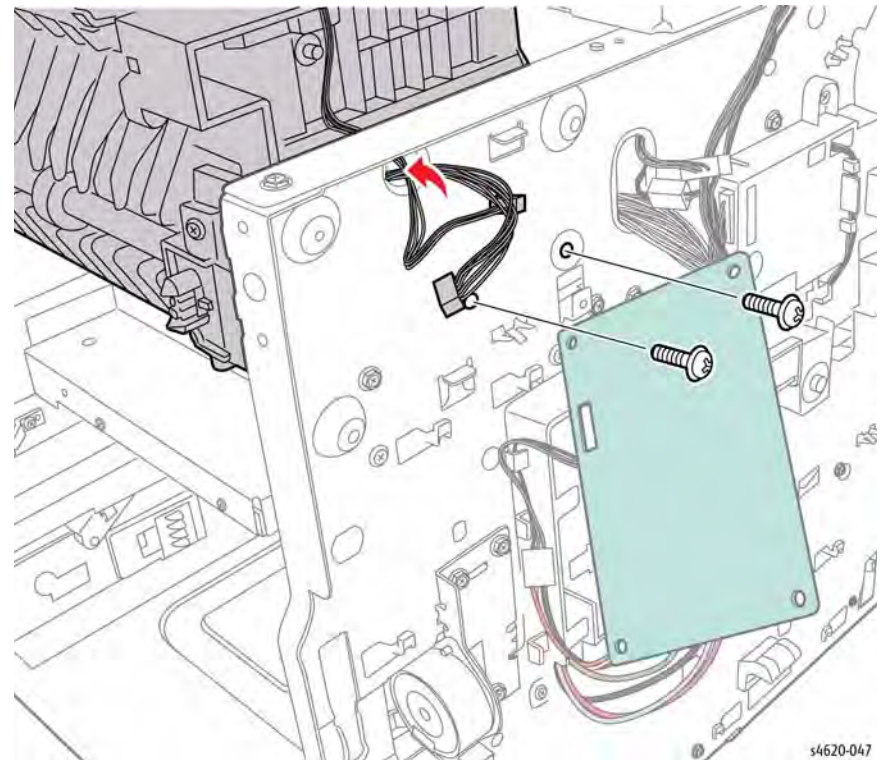

Figure 5 Remove the left side Exit Assembly screws
14. Remove 2 screws (metal) from the left side that secure the Exit Assembly, Figure 5.